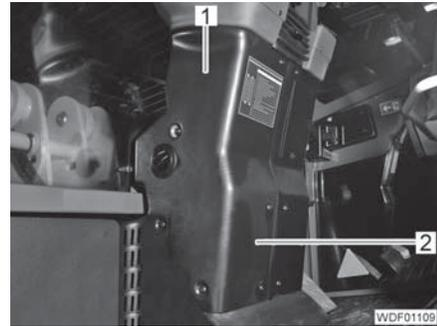

Fig. 390 Cladding attachment (left)
- Unscrew the 6 screws (Fig. 390,1).
- Carefully remove the cladding (Fig. 390,2) to the left.
- Carefully position the cladding (Fig. 390,2) from the left.
- Screw in and tighten the 6 screws (Fig. 390,1).